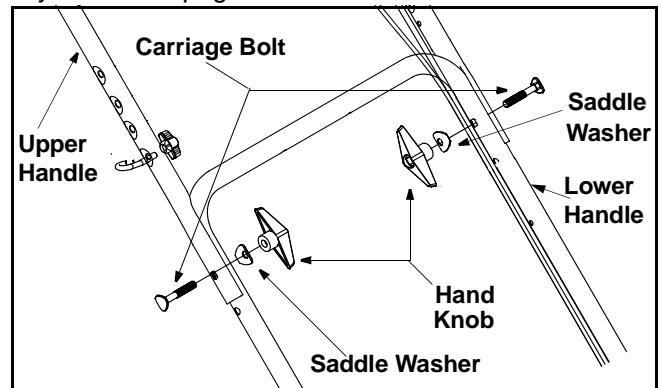

Figure 3
- Tighten the hand knobs on each side of the handle (carriage bolts and saddle washers must be seated properly into the handle as shown). See Figure 3.